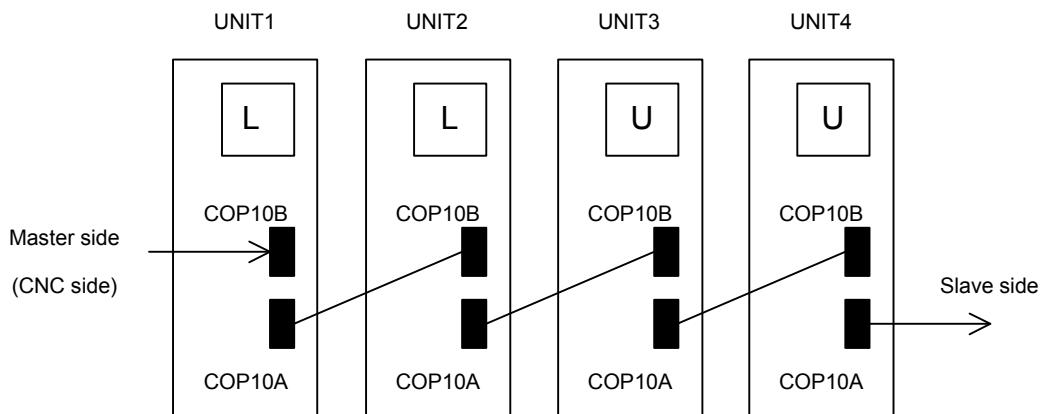

Fig. 3.2.12
(2) Cause and troubleshooting
- (a) Replace the Servo Amplifier optical cable (COP10B) that is nearest to the CNC on which "U" is displayed (in Fig. 3.2.12, the cable between UNIT2 and UNIT3).
(b) Replace the Servo Amplifier that is nearest to the CNC on which "U" is displayed (in Fig. 3.2.12, UNIT3).
(c) Replace the COP10B-side Servo Amplifier that is nearest to the CNC on which "U" is displayed (in Fig. 3.2.12, UNIT2).